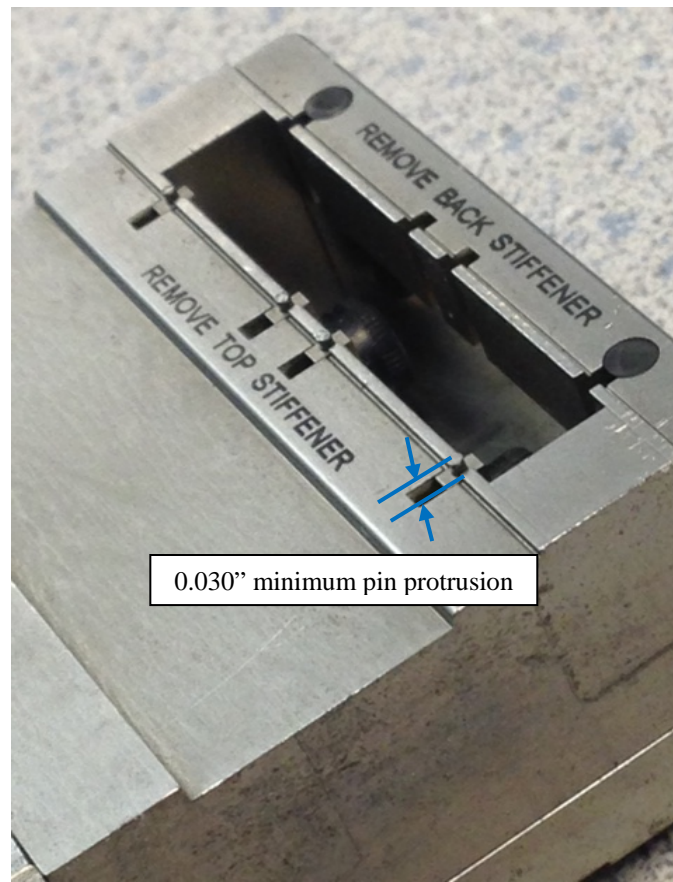

Figure 1: Stiffener removal pins protruding from the bottom of the pin block.
- Stiffener engagement pins are all present and protruding at least 0.030" from the face of the pin block. If any pins are missing, bent, or broken, remove and replace them (see Figure 1).